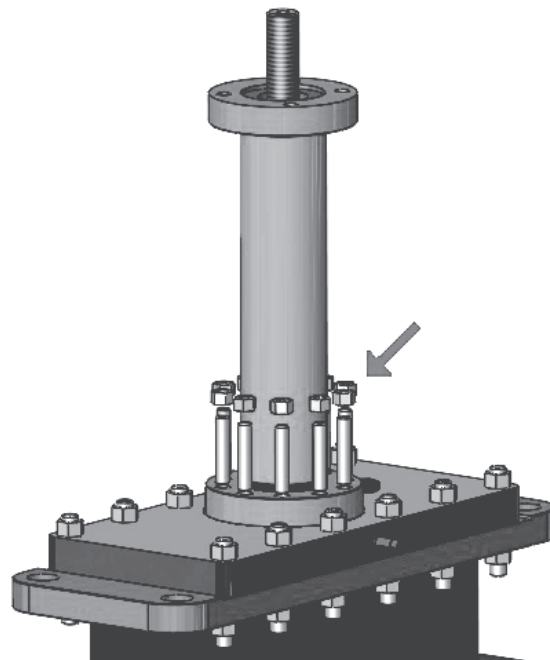

Figure 8 - Yoke bolting removal
- 8. Remove the yoke flange bolting as shown in Figure 8